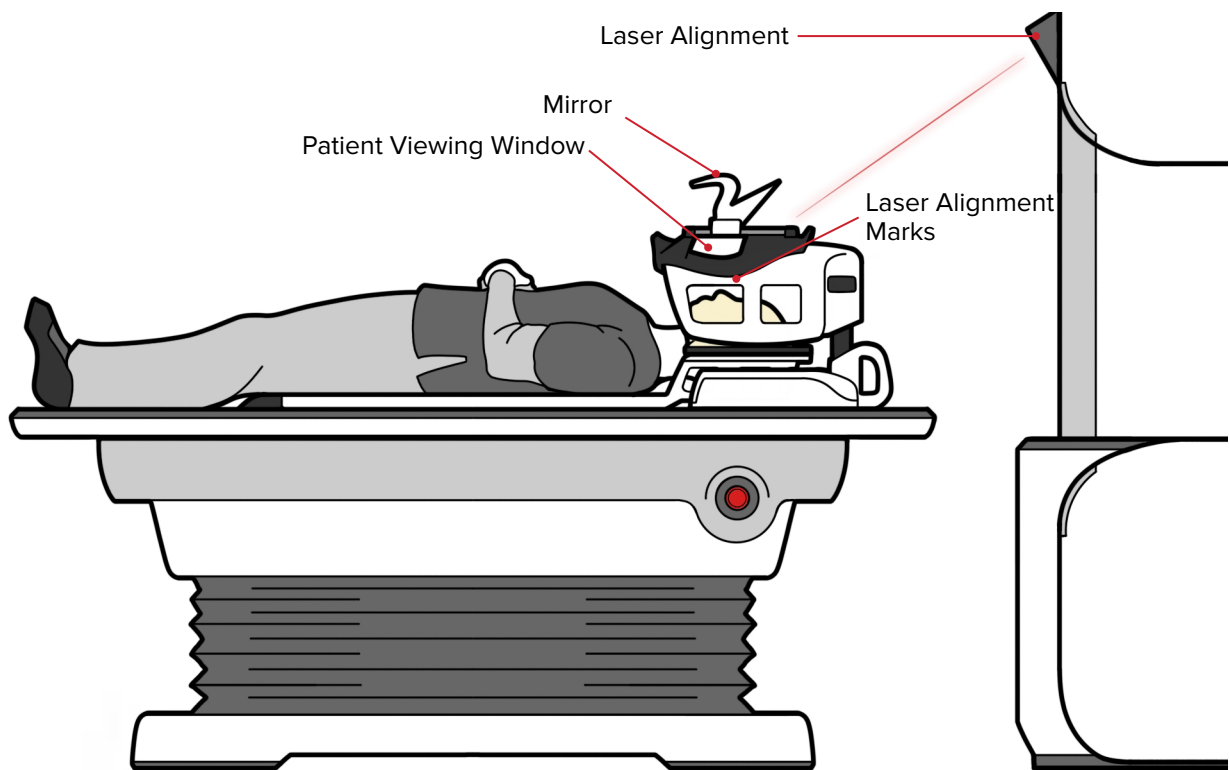

Figure 9
11. Using the MR laser system, align the coils to the laser alignment marks on the Encompass MRI Coil using MR table adjustments. Refer to MR Scanner manual. (Fig. 9, 10, and 11).